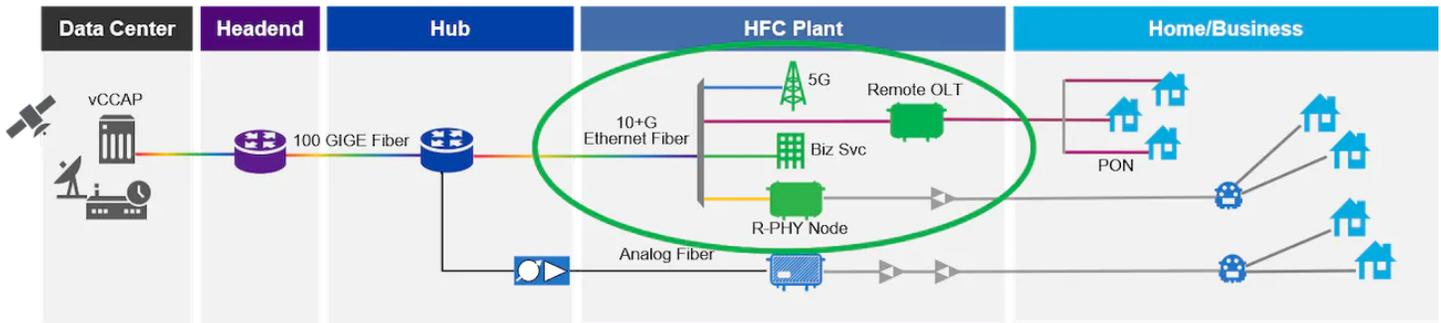

Figure 1. Converged Interconnect Network (CIN).
– While the old point-to-point analog optical links for legacy nodes were finicky to set up and maintain, overall they were simple compared to the complex optical networks feeding some DAA nodes (Figure 1). Technicians in the field today often must be versed in DWDM technologies and be equipped with the proper tools to confirm that they have not just the right light levels but also at the right wavelength. Verifying network continuity through a vast array of switches and muxes/demuxes also creates challenges. Technicians must troubleshoot SFP issues, be aware of how PTP timing can impact services, and not forget the fundamental importance of fiber inspection and cleaning. No longer can cable operators rely on a small subset of fiber experts; now everyone must have this baseline knowledge and toolset.